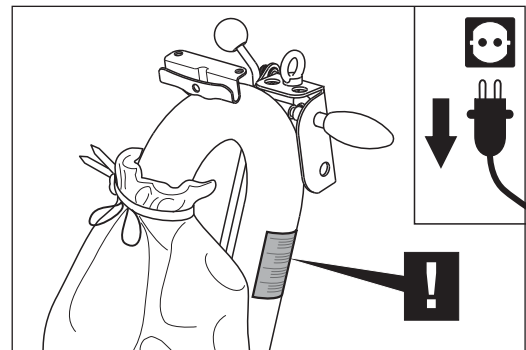

Fig. 35 Note the warning on the guide tube!
- Note the warning on the guide tube (Fig. 35)!